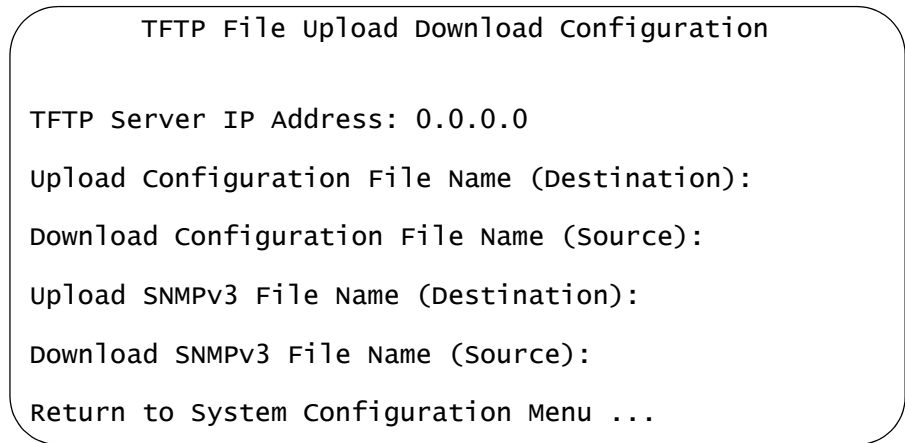

Figure 142. TFTP File Upload Download Configuration Menu
- From the System Configuration Menu, select **TFTP File Upload Download Configuration** to display the menu in Figure 142.